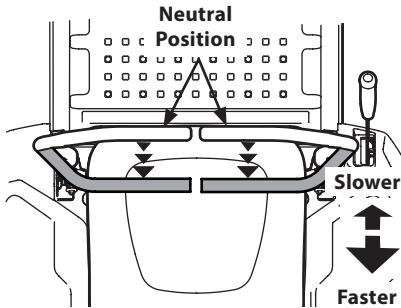

Figure 26
1. Slowly and evenly move both lapbar drive control levers rearward. The tractor will start to move in the reverse direction. See Figure 26.